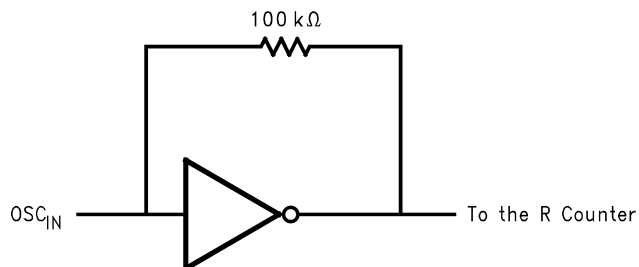

Figure 4.
**50Ω termination is often used on test boards to allow use of external reference oscillator. For most typical products a CMOS clock is used and no terminating resistor is required. OSC_{IN} may be AC or DC coupled. AC coupling is recommended because the input circuit provides its own bias. (See Figure 4 below.)